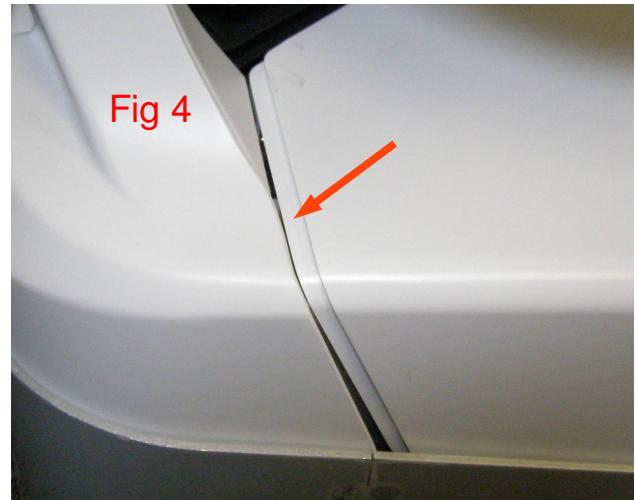

Fig 4
- 2. Make sure the Panel is all the way back and slips under the Rear Bottom Panel edge. (Fig 4)